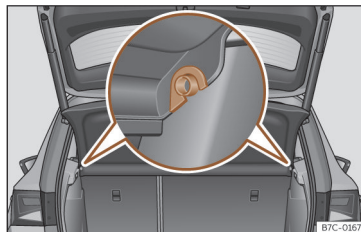

Fig. 158 In the boot: removing and installing the shelf.
- Remove the rear shelf from the side supports >>> **Fig. 158** by pulling it upwards and then take it out.
- Insert the cover horizontally so that the "recess" fits onto the axis of the supports >>> **Fig. 158** and press down until it engages.